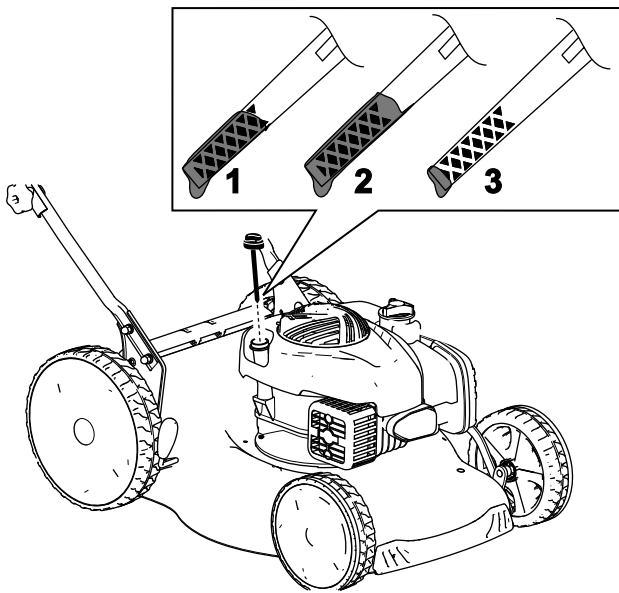

Figure 7
2. Remove the dipstick by rotating the cap counterclockwise and pulling it out (Figure 7).
7. Read the oil level on the dipstick (Figure 7).